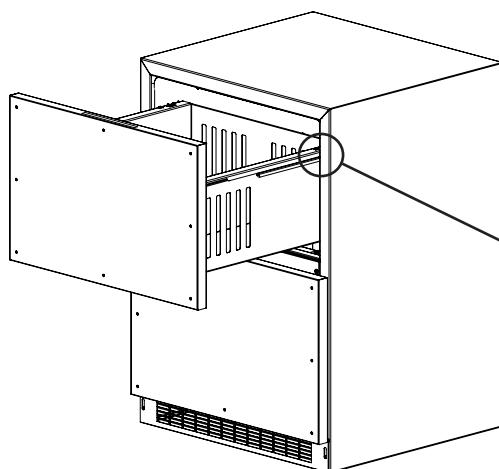
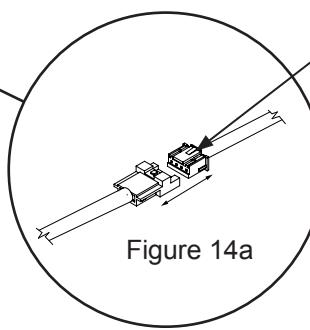

Figure 14
Figure 14a
1. Begin by pulling out the top drawer. (See Figure 14). Remove screws securing drawer to slides (See Figure 15). Pull drawer forward, lift up and out to clear clips in rear of drawer. Move drawer forward about 1" (2.5 cm) and set down on slides. At the right rear corner of the drawer disconnect the display wire harness (See Figure 14a). Remove the drawer from the unit by lifting up off of the slides. Repeat for bottom drawer but disregard the harness instructions as there is no wiring to the bottom drawer.